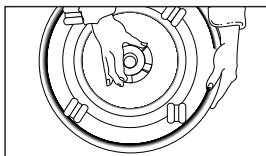

Fig. 1
- Step 2:** To open, gently place the air cleaner on its side and unscrew the locking mechanism located under the base assembly. (Fig. 1)